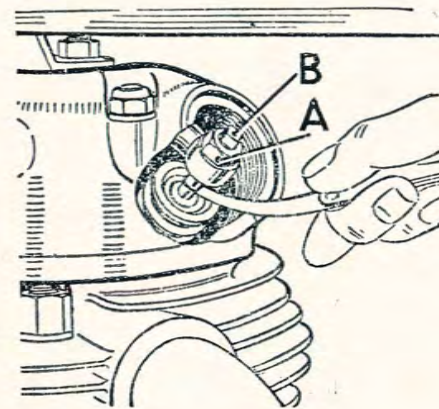

Fig. 7.
When the exhaust valve clearance has been adjusted, rotate the motor forward again until this clearance is just taken up (i.e. just before the valve actually starts to open). This is the correct position for checking and adjusting the intake valve clearance. Check the valve clearances by sliding a feeler gauge between valve stem and adjusting pin, as shown in Fig. 7.
If the clearance requires adjusting, slacken the locknut (A) Fig. 7, and adjust pin (B) until a feeler gauge of the correct thickness will just slide between the valve and pin.